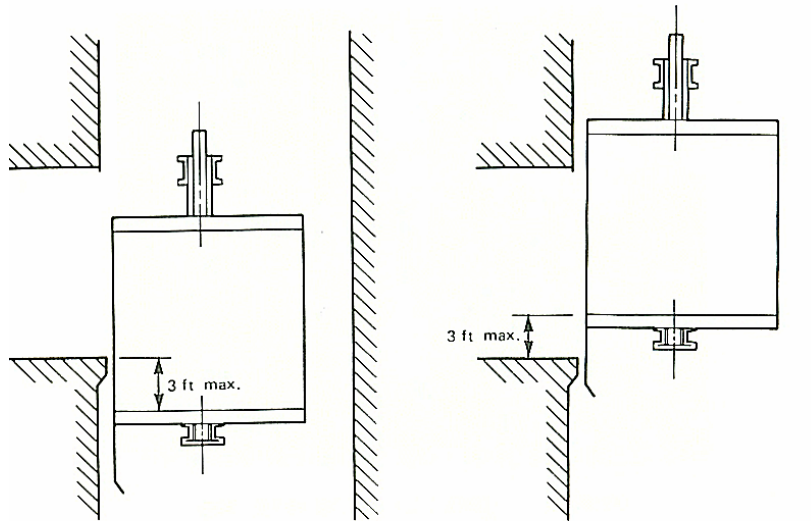

FIG. 1-2 CAR WITHIN 3 FT. OF LANDING
1.21.2 Procedure when floor of car is within 3 feet of landing: (See Fig. 1-2.)